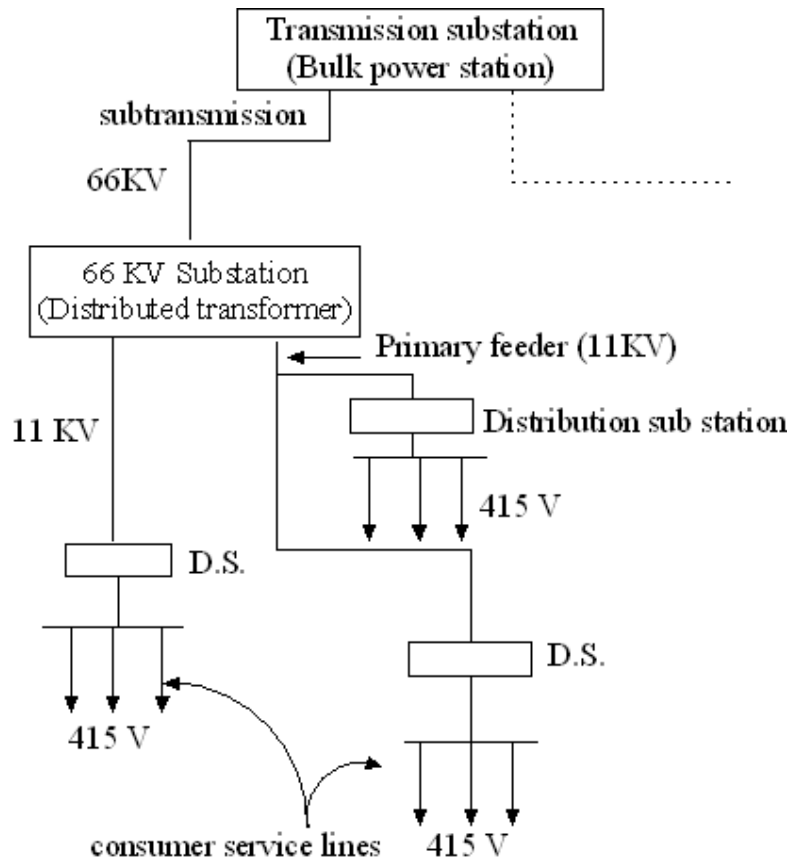

Fig. K1
**Q.11** Differentiate between feeder, distributor and service main. (3)
**Ans:** Fig K1 shows a typical distribution system consisting of various kinds of substations and feeders, finally ending up with consumer's service lines. The sequence, as shown in the figure, is as follows: